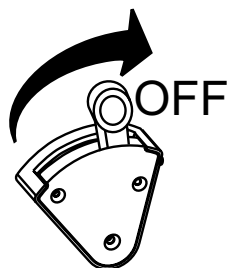

Figure 34. Safety Stop Switch (OFF)
3. Place the safety stop switch (Figure 34) in the "OFF" position.